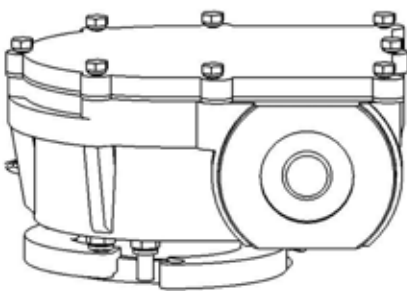

Figure 46 Gear box
- 1) Loosen the pressing plate of the gear box and pull out one end of the board slightly (6 pieces of M8 bolts, 13mm wrench). (Figure 46)